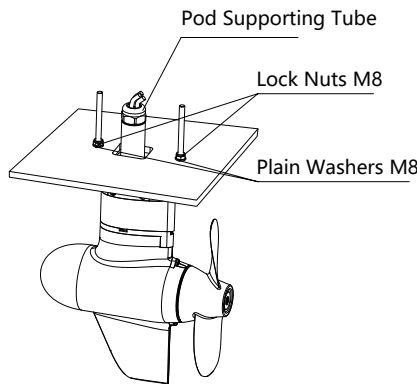

Figure 3-2
**Step 2:** Hold the pod motor and insert its two M8 bolts and supporting tube into the holes from below the hull bottom. Then lock the each M8 bolt from inside the boat by a plain washer and a nut (Figure 3-2).